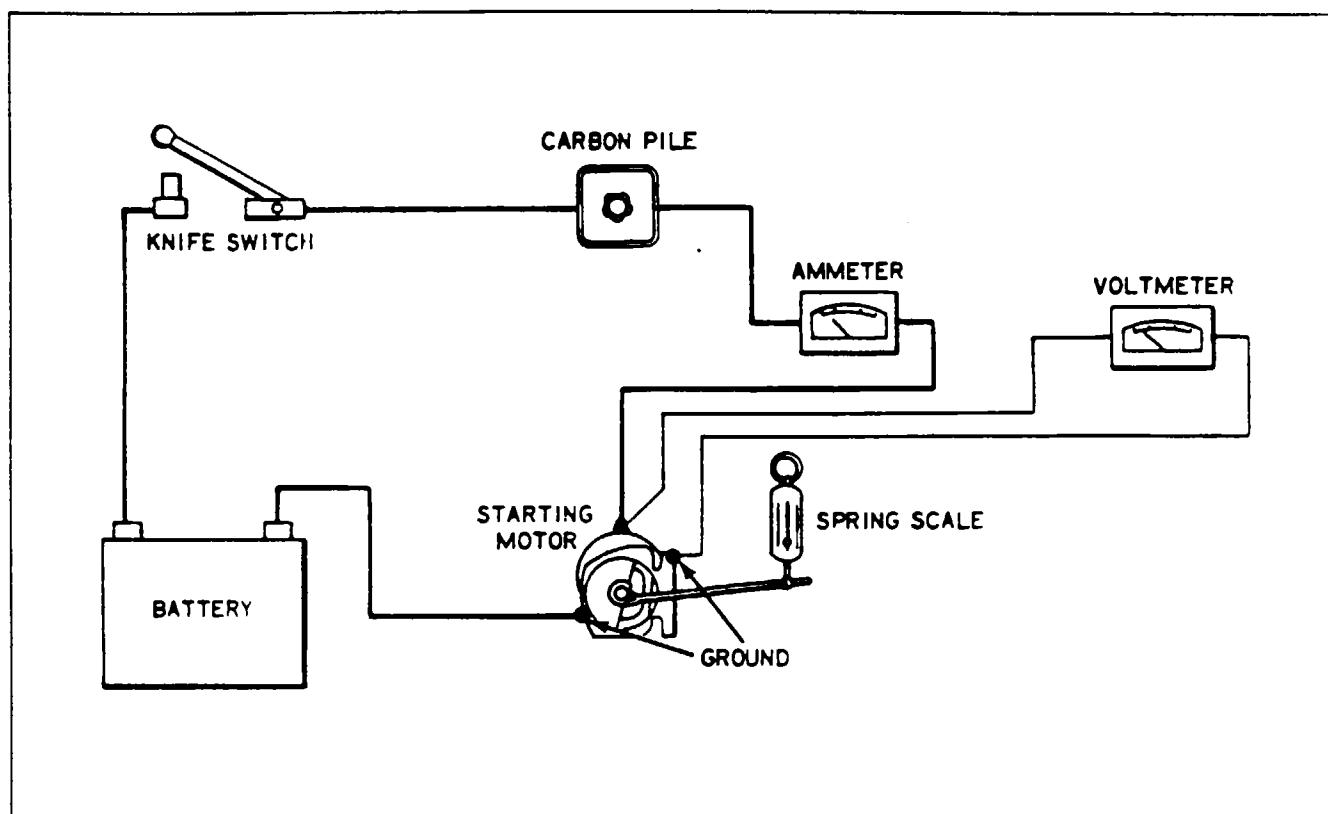

Figure 80-6. Stall - Torque Hook-Up
2. If no difficulty is indicated in the above test, a stall torque test may be made to see if the starting motor is producing its rated cranking power. Make test connections as shown in Figure 80-6.